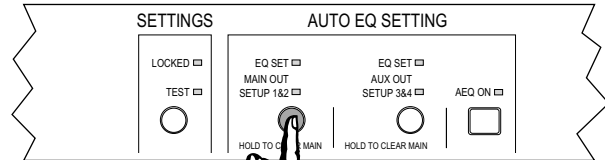

Figure 13 - Main Out Setup Button
1. Press the round **MAIN OUT SETUP 1&2** button (Figure 13). On release, the LED flashes, and the Auto EQ routine begins.